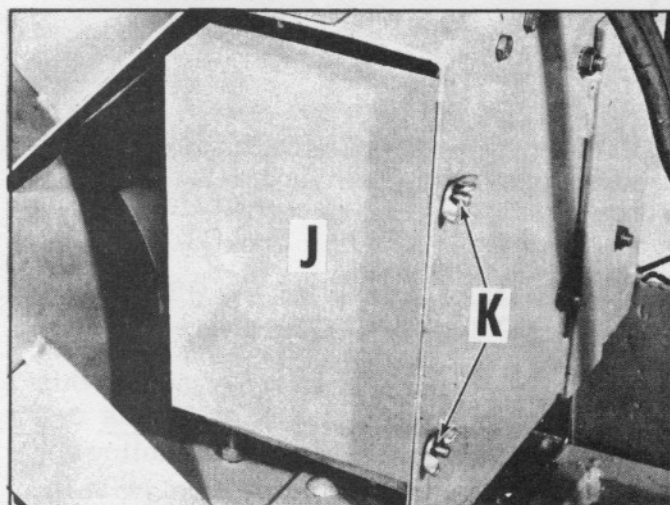
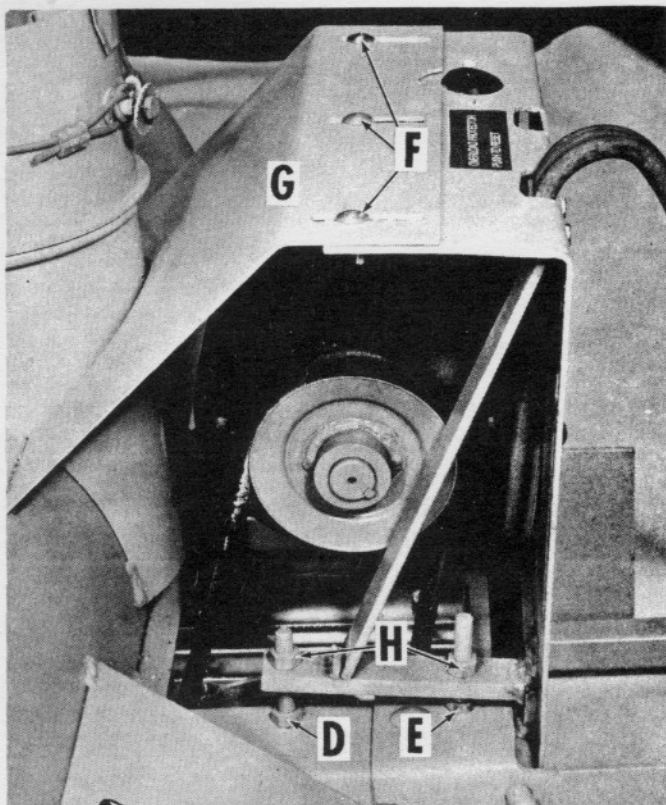

Fig. 16
Fig. 17
Remove side cover (J) on motor housing (Fig. 16). Loosen three wing nuts (F) on top cover. (G). Loosen two mounting nuts (H) and tighten adjustment mounting bolt (D) to the correct setting for V-belt. Adjust mounting bolt (E) to same setting as (D). To hold setting retighten two mounting nuts (H). Slide cover (G) so it is snug against rear of header; retighten three wing nuts (F) (Fig. 17). Replace side cover (J) over motor housing, secure with two wing nuts (K) (Fig. 16).